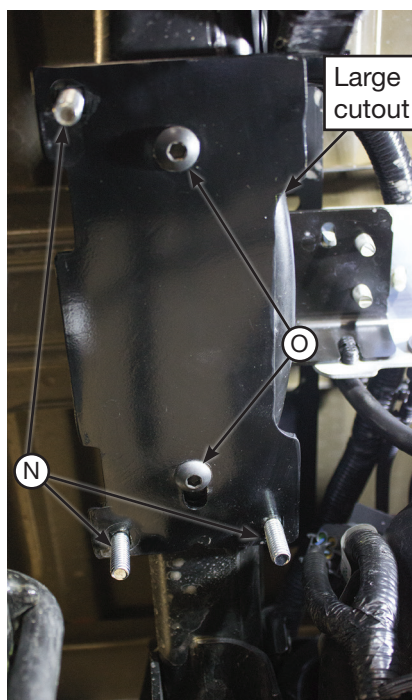

fig. D.5
4. Insert the 3/8"-16 x 1 1/4" carriage bolts (N) into the upper chassis bracket (D). Install the upper chassis bracket onto the frame using the M10-1.5 x 35mm button head cap screws (O) so that the large cut-out on the side of the bracket is inboard of the frame rail and the slotted hole in the center is forward (Fig. D.5). Torque hardware to 38 lb.-ft. (52Nm).